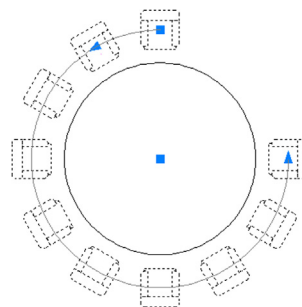

FIGURE 8.10
- **Fill Angle.** This option (also via the triangle grip) changes the included angle, currently set to 360°. An example is shown in Figure 8.10, where the fill angle has been rolled back to 270°.